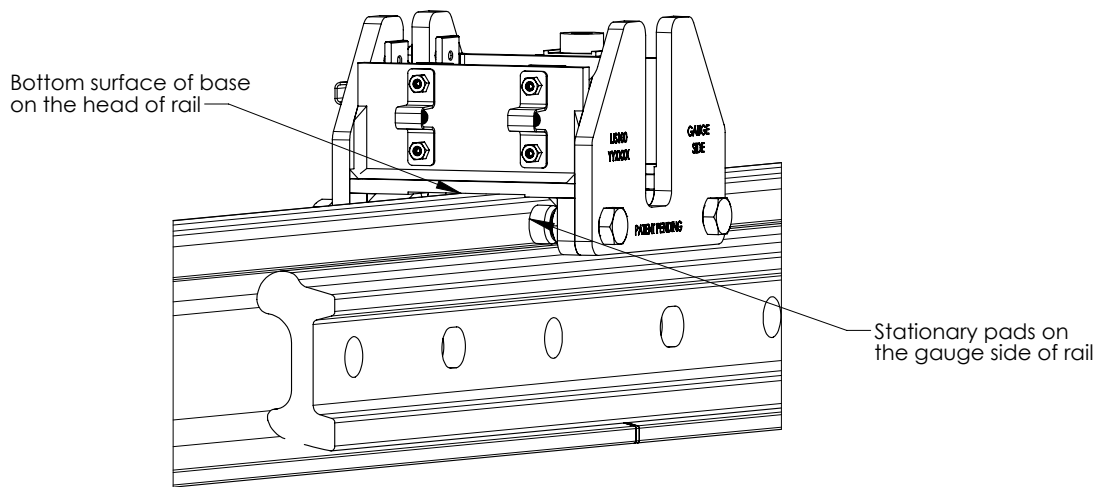

Figure 14: Base properly seated on the head of rail
3. Place the base assembly on to the insulated joint. The base should be oriented with the stationary pads touching the gauge side of the rail (**Figure 14**). The bottom surface of the base assembly should rest on the head of the rail. ERICO recommends that the operator should always be positioned on the field side of the rail when installing, operating, and removing this device.